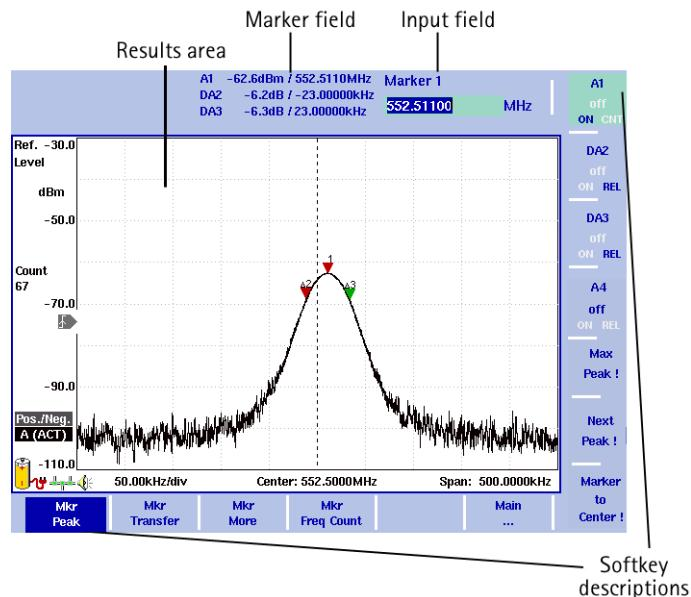

Figure 5 Display sections
**Display** The 6.5 inch display is divided into the following sections (see Figure 5):